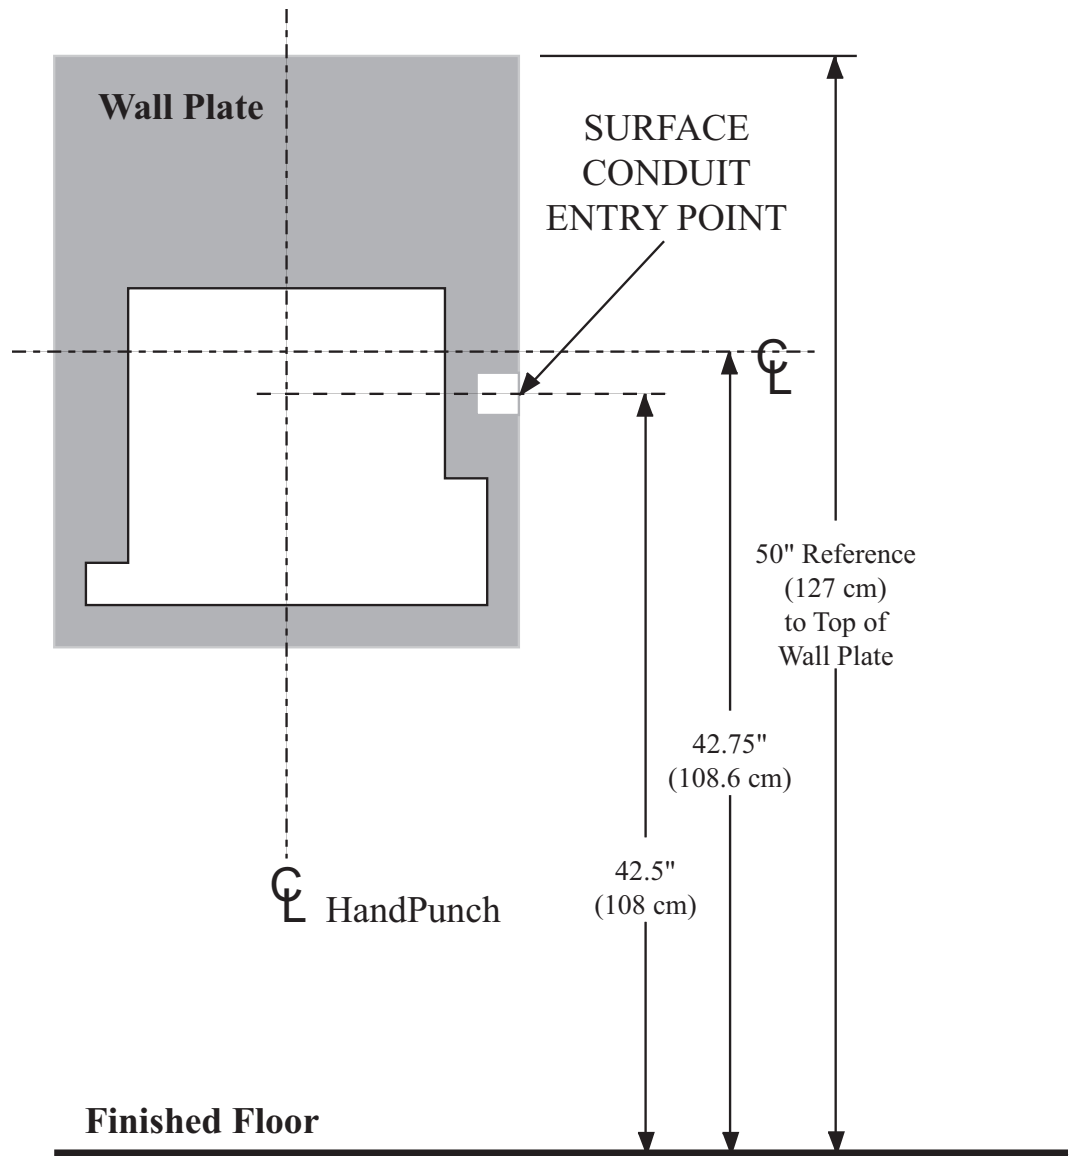
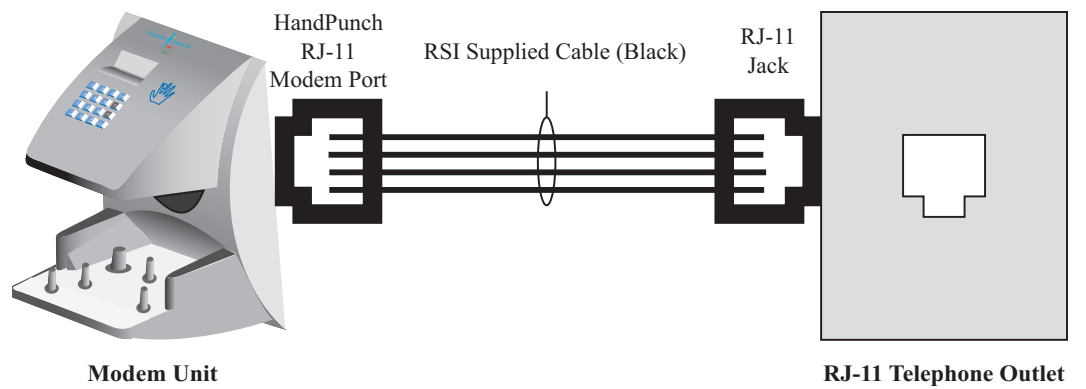

Figure 3-2: HandPunch Wire Routing Layout
Figure 4-4: Host PC to HandPunch Modem Connection
Before you begin installation, check the site blueprints, riser diagrams, and specifications for important information about HandPunch location and for other systems that connect to the HandPunch. Look for any existing wall preparations and wiring that other contractors may have installed for the HandPunch. A wire routing layout diagram (see Figure 3-2 on page 15) is provided to assist in planning wire routing.
To make the modem connection, a telephone jack must be installed on or in the wall behind the modem HandPunch terminal. Position the RJ-11 jack location using the template provided in this manual (see Figure 3-2 on page page 15). The short black cable provided with the modem HandPunch connects the terminal to the telephone jack. Figure 4-4 on page page 19 a wiring diagram for a modem to host computer connection.
1. Refer to Figure 3-2 on page 15 for a template diagram to assist in routing wiring.
Figure 4-4 on page 19 provides a Host PC to HandPunch Modem Network wiring diagram (Modem wiring is a HandPunch option).